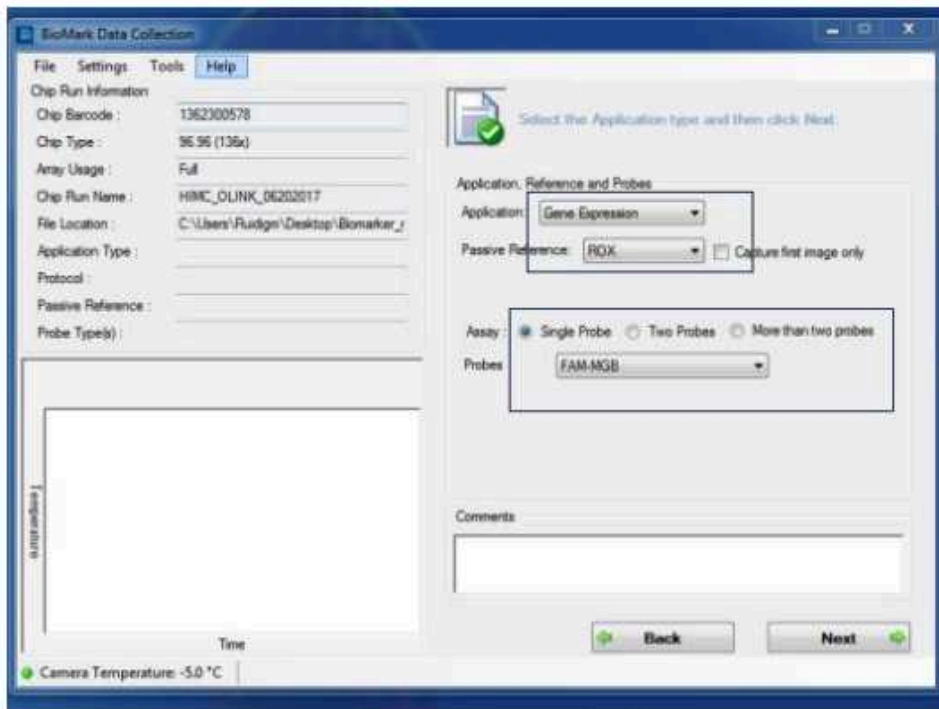

Figure 4 Application reference and probe setting
- 44 Set the following options for application reference and probe setting according to Figure 4.